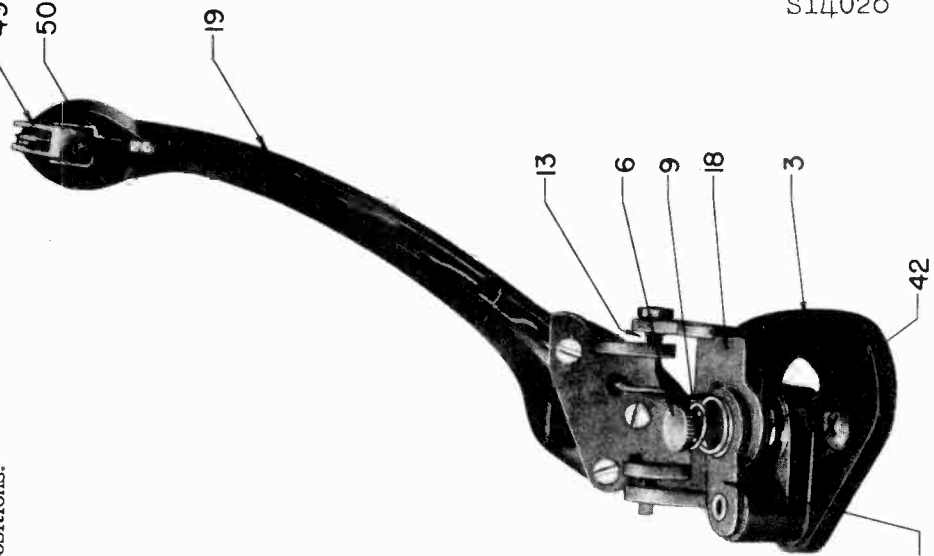

Fig. 6 Tone Arm &amp; Hinge Assembly
The tone arm height adjustment determines vertical rise of the tone arm. If the tone arm does not rise sufficiently it will not play a full stack of twelve records. (See Fig. 6) On the other hand, if the tone arm raises too high it may hit the records resting on the record shelf. Set the tone arm height adjustment screws (6) so that the needle clears twelve unwarped records on the turntable. The tone arm housing must not hit the under side of the record shelf when the changer is cycled after adjustment.
The tone arm hinge adjustment must be made in the following manner. (See Fig. 6) Insert an Allen wrench into special set screw (13) and hold it in this position. With a hex head wrench loosen the hex nut around this set screw. Then tighten set screw to a point where the tone arm moves freely in the vertical position but still does not have any lateral motion. Hold the set screw (13) firmly in this position with the Allen wrench, and then tighten the hex head nut.